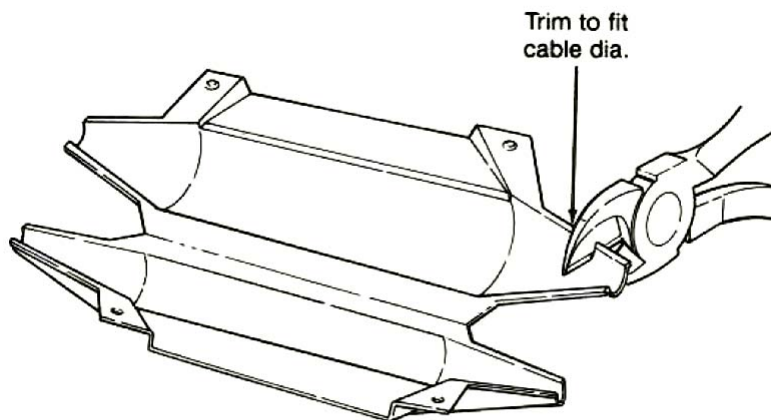

Figure 4
- 5.1 Trim tapered ends of mold with knife or diagonal cutting pliers to fit cable diameter. (Figure 4)